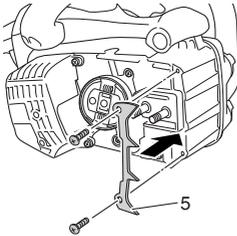

Fig. 4
* In case of installing the spiked bumper (5), install the spiked bumper (5) to the unit with two screws. (Fig. 4)